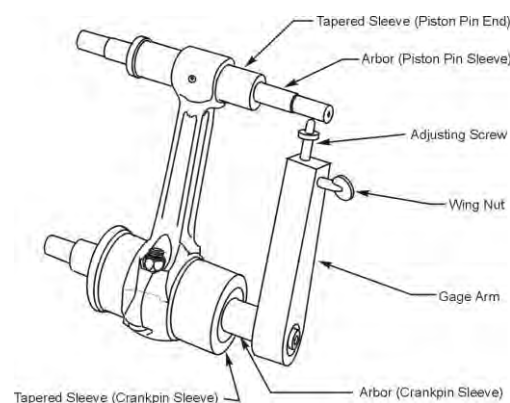

Figure 34
- B. Insert the tapered sleeves (Figure 34) of the connecting rod parallelism and squareness gage P/N 64530 in the bearing holes in the connecting rod.
- D. Install the gage arm on the arbor as shown in Figure 34.